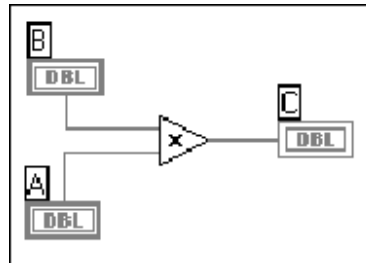
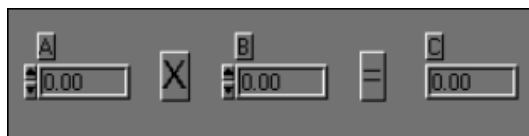

Figure 2. Program for Multiplying Two Numbers and Displaying the Result
Figure 3. Front Panel for a Two-Number Multiplication Program
- A LabVIEW program, called a virtual instrument (VI), is a two-window system. The code is in one window and the user interface (inputs and outputs) appears in a separate window. The program window is the block diagram window, and the user inputs and outputs are in the front panel window. Figure 2 shows a sample program that would appear in the block diagram window. The numbers are entered into the computer and displayed in the front panel window shown in Figure 3. The two boxes on the left (labeled **A** and **B**) are controls, and the box on the right (labeled **C**) is the output or indicator. (The **X** and **=** are only displays showing the operation of the VI and not inputs or outputs.) The three boxes are associated with like labeled boxes in the diagram window shown in Figure 2.